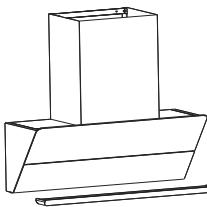

Fig.9
- Hold both ends of the bottom of the Oil collector with your hands, pull it vertically and gently forward, and then you can remove the Oil collector(Fig.9).